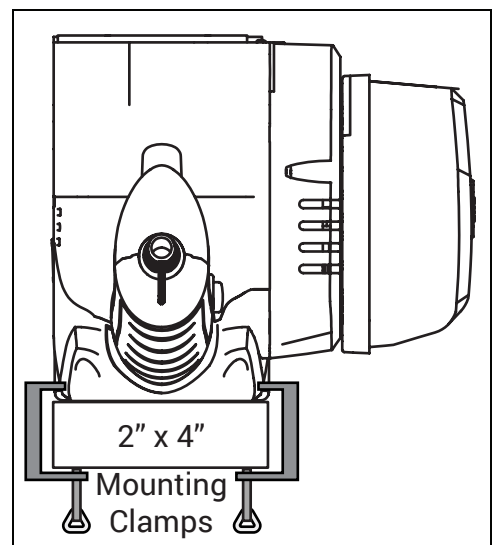

Fig. 7
2. Turn sander over as shown in Figure 7 and place on 2" x 4" piece of wood.
3. Locate the mounting clamp openings on both sides of the sander, near the handle. Insert one mounting clamp into the mounting clamp opening (Fig. 7) and tighten it onto the wood. Repeat on the opposite side. Make sure both mounting clamps are tightened.